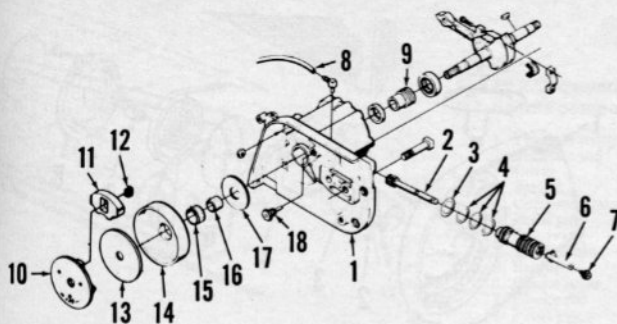

Fig. HL259—Exploded view of clutch and oil pump assemblies.
Fig. HL262—Oil line fitting (O) must be pointing towards 8 o'clock position and oil line routed as shown. Cam screw (P) must be installed carefully to insure proper meshing with cam in plunger (2—Fig. HL259).
CLUTCH. Models are equipped either with the three shoe centrifugal clutch shown in Fig. HL259 or a 1-piece "S" configuration clutch similar to that
AUTOMATIC CHAIN OIL PUMP. All models are equipped with the plunger type pump shown in Fig. HL259. The pump is driven by a worm (9) on the engine crankshaft. Oil output is adjusted by turning adjusting lever shown in Fig. HL259. Turning adjusting lever counterclockwise will increase oil output.
To reassemble pump, lubricate and install pump plunger (2—Fig. HL259) in pump body (5). Lubricate "O" rings and align cam groove in plunger with slot in pump body. Carefully install pump assembly in housing to prevent plunger from moving out of alignment with pump body slot. Check pump by inserting a suitable tool through cam screw hole to engage cam slot in plunger. Pressure should be felt when plunger is moved towards end of pump. Screw cam screw (P—Fig. HL262) into housing being sure pin in cam screw properly engages slot in pump body (5—Fig. HL259) and cam groove in plunger (2). Do not tighten cam screw